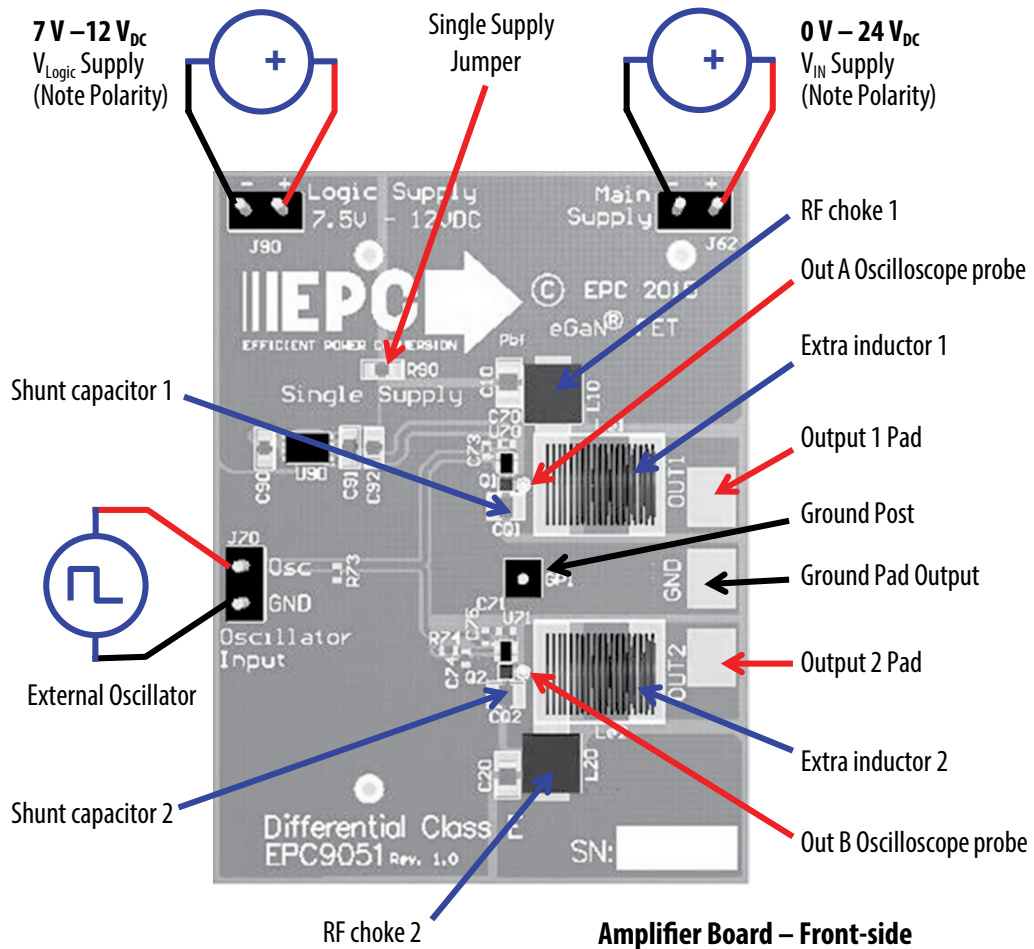
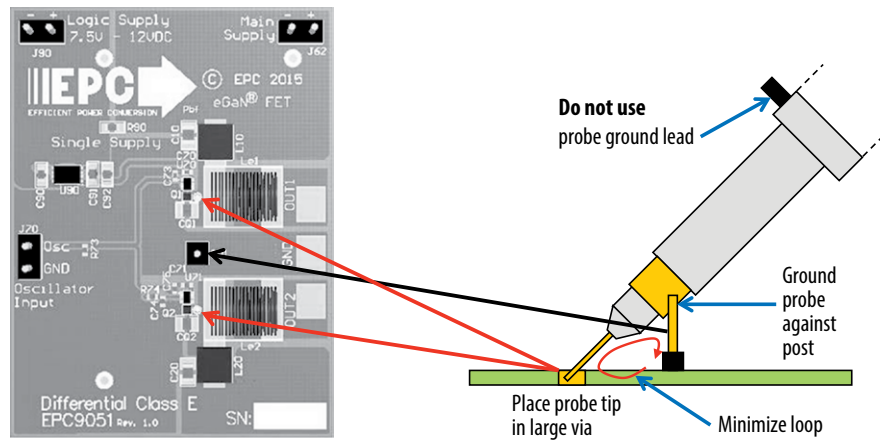

Figure 5: Proper connection and measurement setup for the amplifier board.
Figure 6: Proper measurement of the drain voltage using the hole and ground post.
2. With power off, connect the main input power supply bus to J62 as shown in figure 5. Note the polarity of the supply connector. Set the voltage to 0 V.
3. With power off, connect the logic input power supply bus to J90 as shown in figure 5. Note the polarity of the supply connector. Set the voltage to between 7 V and 12 V.
NOTE. When measuring the high frequency content switch-node, care must be taken to avoid long ground leads. An oscilloscope probe connection (preferred method) has been built into the board to simplify the measurement of the Drain-Source Voltage (shown in figure 5 and figure 6). The choice of oscilloscope probe needs to consider tip capacitance where this will appear in parallel with the shunt capacitance thereby altering the operating point of the amplifier.